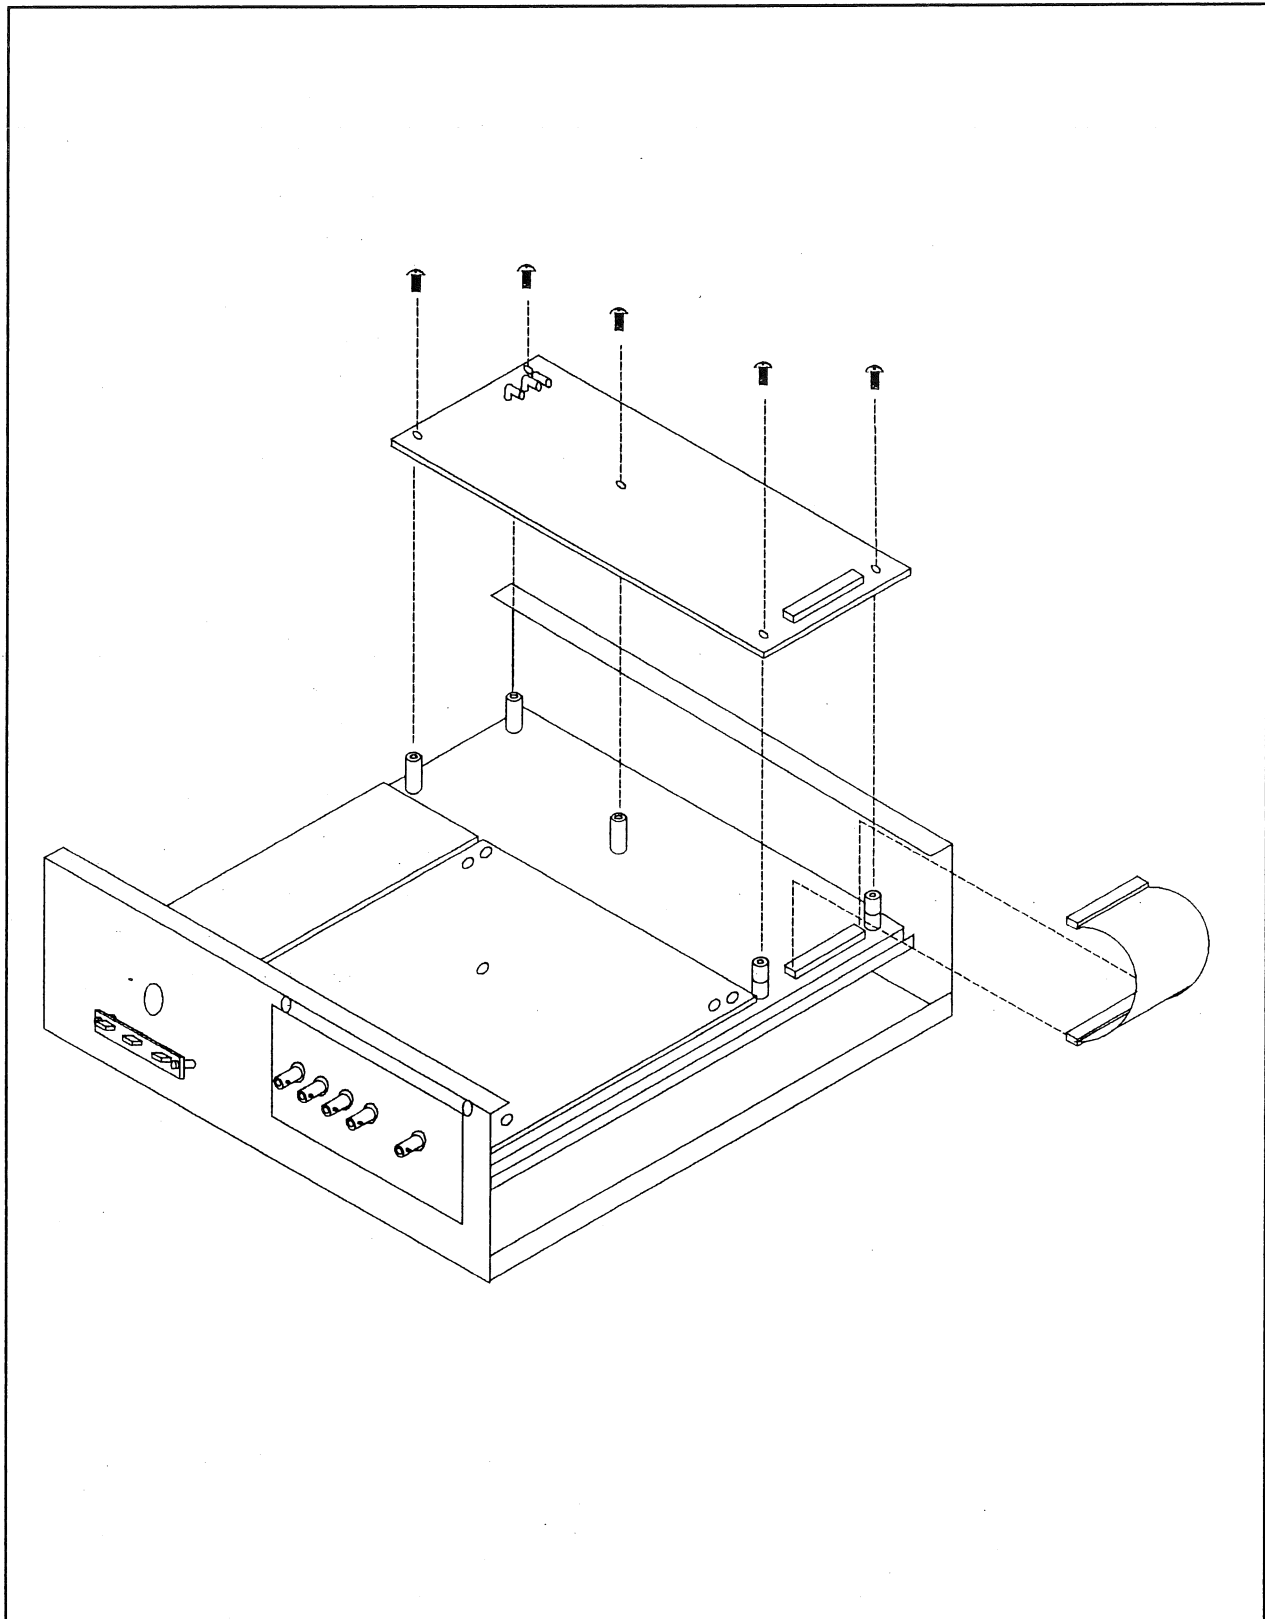

Figure 3-3. Removing the DBE Board
- 2 Remove the two or three coax cables from the DBE Board. See Figure 3-3.
- 3 Remove the five screws that hold the DBE Board to the Mother Board. See Figure 3-3.
- 4 Disconnect the flat ribbon cable. See Figure 3-3.